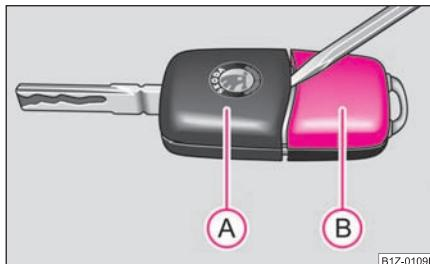

Fig. 29 Disconnect key with radio remote control
Each remote control key contains a battery which is housed in the cover **B** ⇒ fig. 29 of the transmitter housing. We recommend having the battery of the key replaced by a specialist garage. You should, however, proceed as follows if you wish to replace the battery yourself:
- Use a thin screwdriver to carefully lever off the front part of the key **A** ⇒ fig. 29 from the transmitter housing **B**.